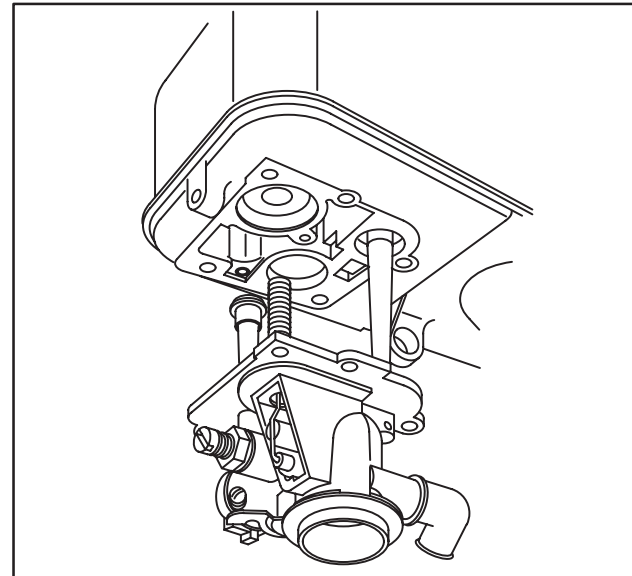

Fig. 243 – ASSEMBLING TANK TO CARBURETOR
2. Lower tank down onto carburetor, while guiding choke spring into spring well, Fig. 243.